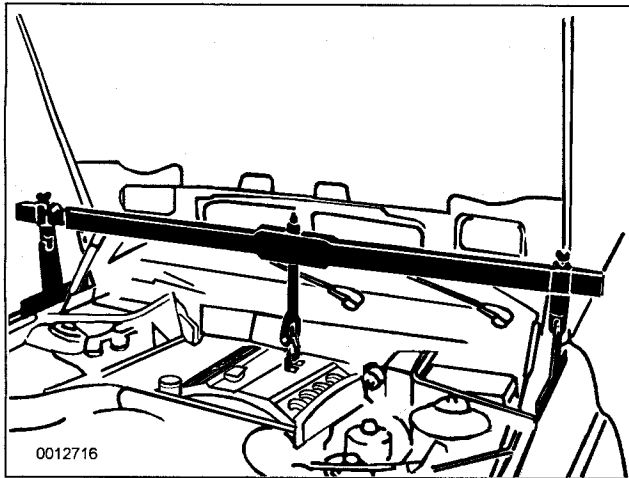

Fig. 16. Support equipment used to support engine from above.
1. Using engine support equipment, raise engine until weight of engine is supported. See 110 Engine Removal and Installation. See Fig. 16.